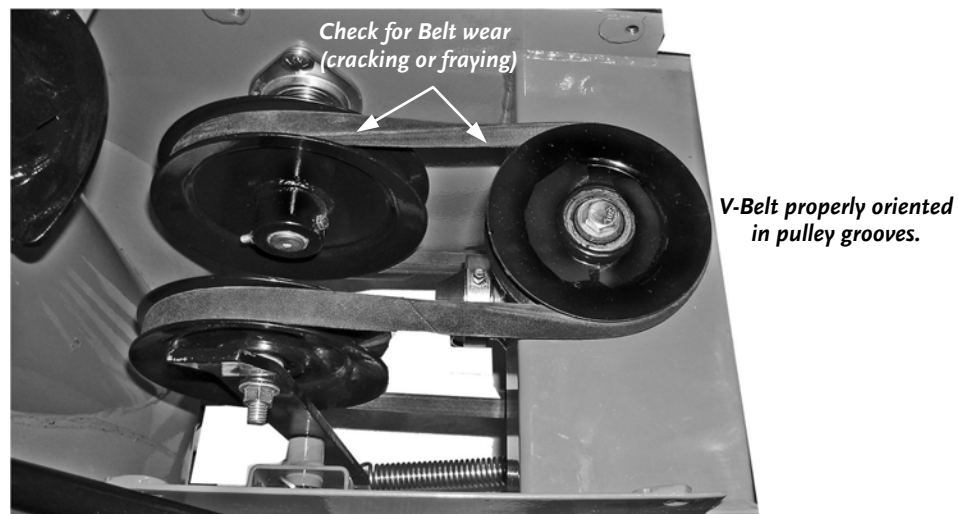

Figure 17
- Check the Belt for proper orientation and wear after the first four (4) hours of operation. See **Figure 17** on page 28.
- Check the Belt for proper orientation and wear (**Figure 17**) after the first four (4) hours of operation.